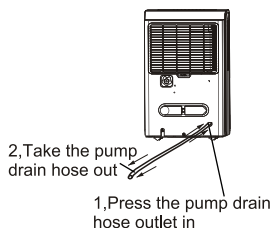

Fig.13
- Press the pump drain hose outlet in and take the pump drain hose out from it (See Fig.13). Make sure do not let the water in the pump hose drip to the floor.